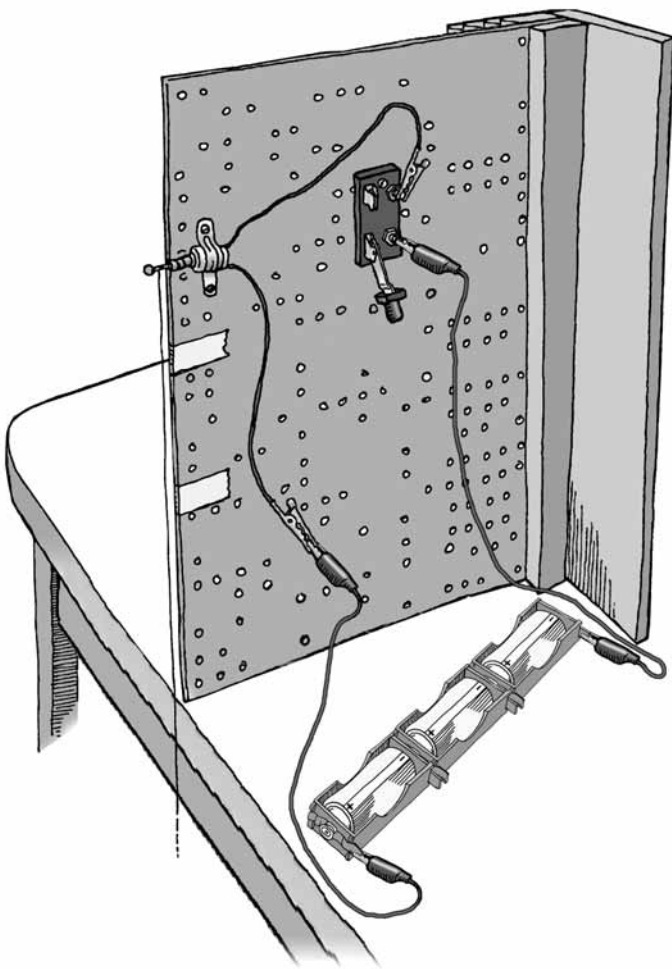
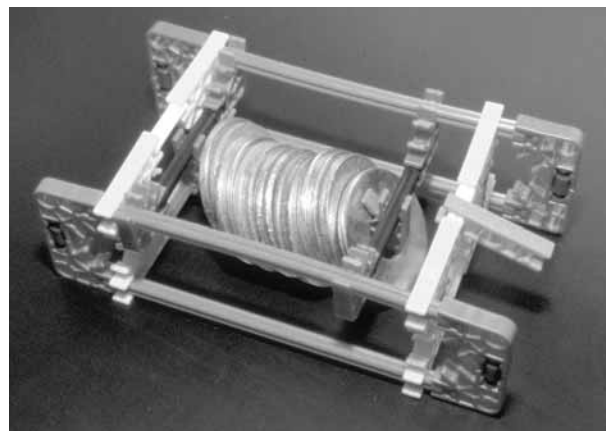

Figure 8.2 Setup for Lesson 8
Figure 8.3 Assembled K'NEX® sled
1. Have students work in groups of four. Have them connect the motor to three batteries in series, as shown in TG Figure 8.2 (SG Figure 8.1). A sample setup will help them remember how to put the board together.
2. Make sure the string and paper clip are attached so the load rises 10.0 cm, as marked by the tape on the pegboard (see Figure 8.2).
6. Have students build a sled using K'NEX® parts and 14 washers, as shown in SG Figures 8.2 through 8.5. The assembled sled is shown in TG Figure 8.3. Have students label or tag their sled; they will use it again when they investigate simple machines in Lessons 11 through 16.